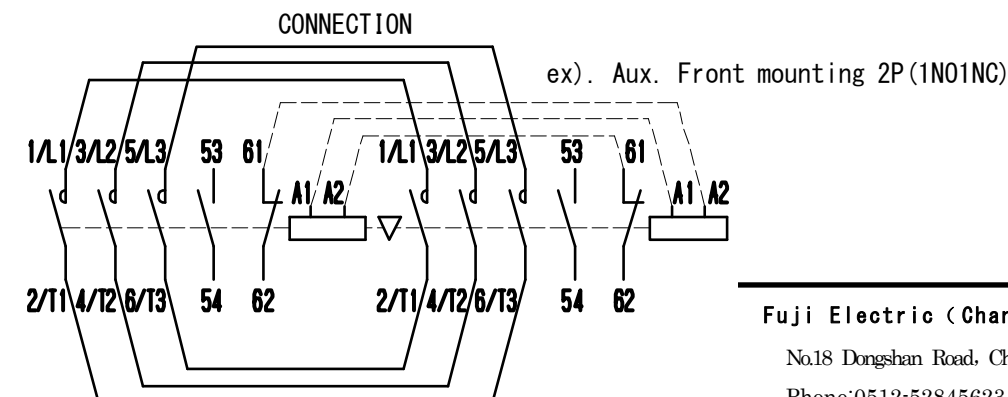

Fig. 4
- (1) After connection, push and release the movable parts(contact supports) of the forwarding and reversing contactors one turn at a time to see that they move smoothly.
- (2) To prevent simultaneous engagement of forward and reverse contactors, be sure to electrically interlock with each other. (Figure4)
- (3) In case of rapid switching use, please keep over 15ms interval by using delay relay and so on for prevention of short circuit accident.